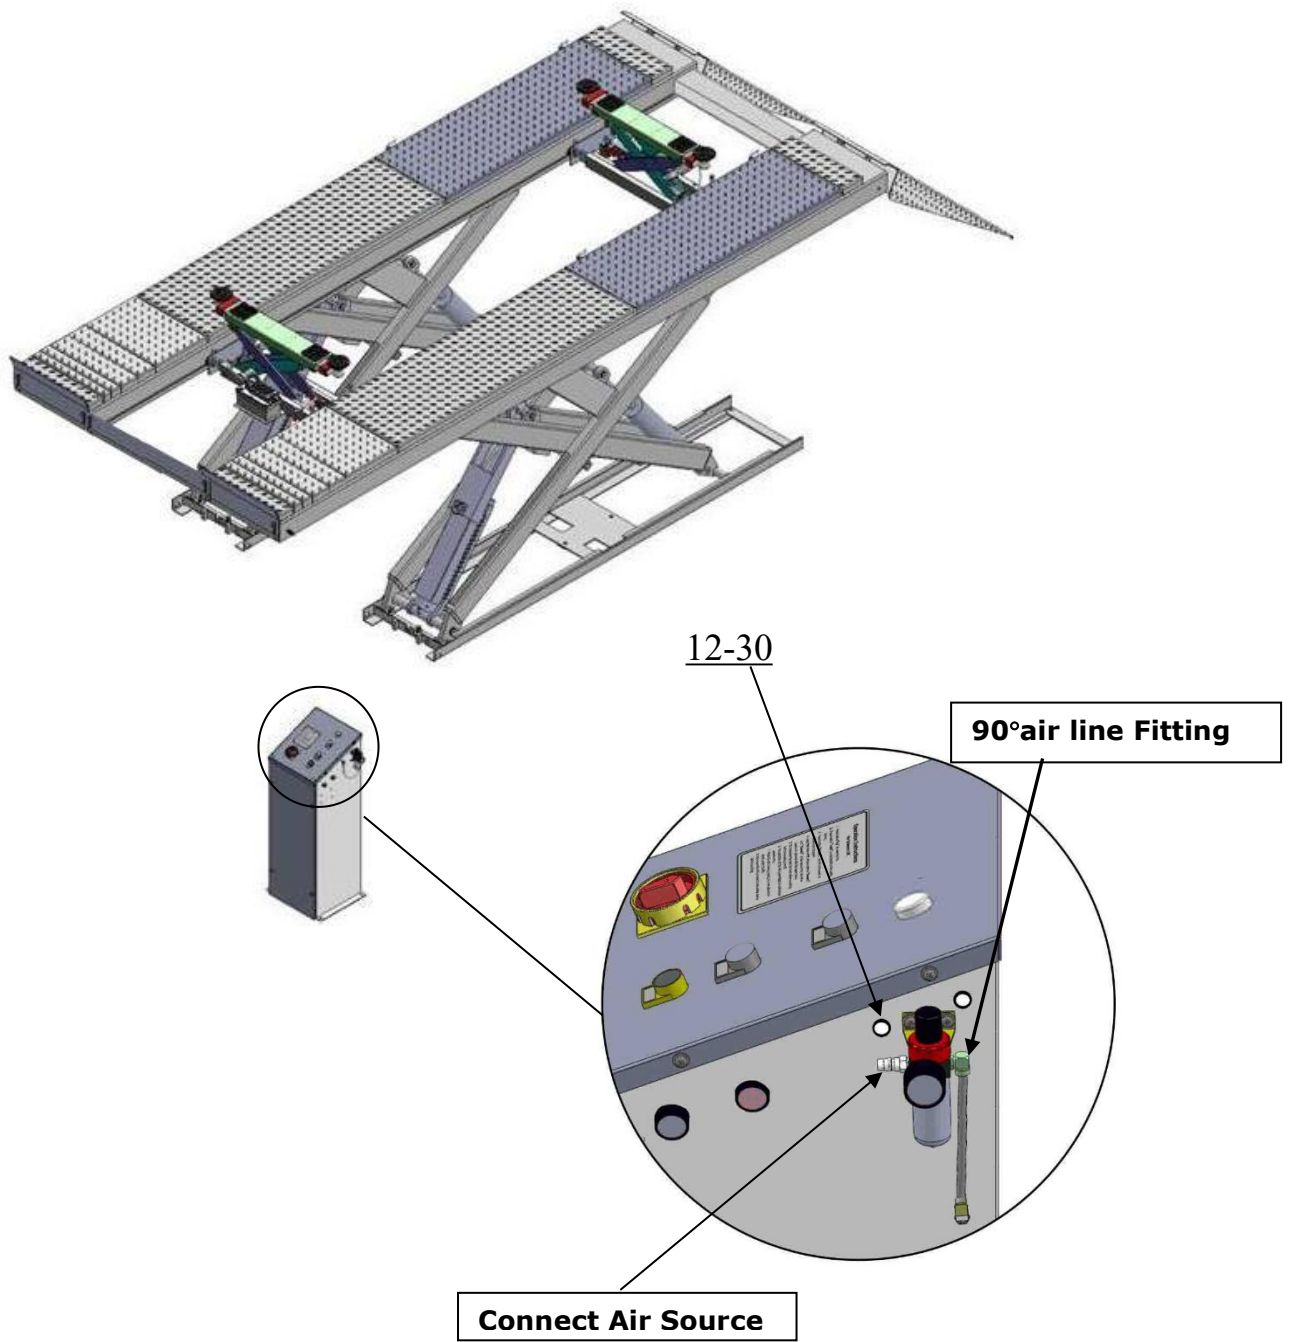

Fig.27
H.Install air line kit (optional parts) (see Fig.27)